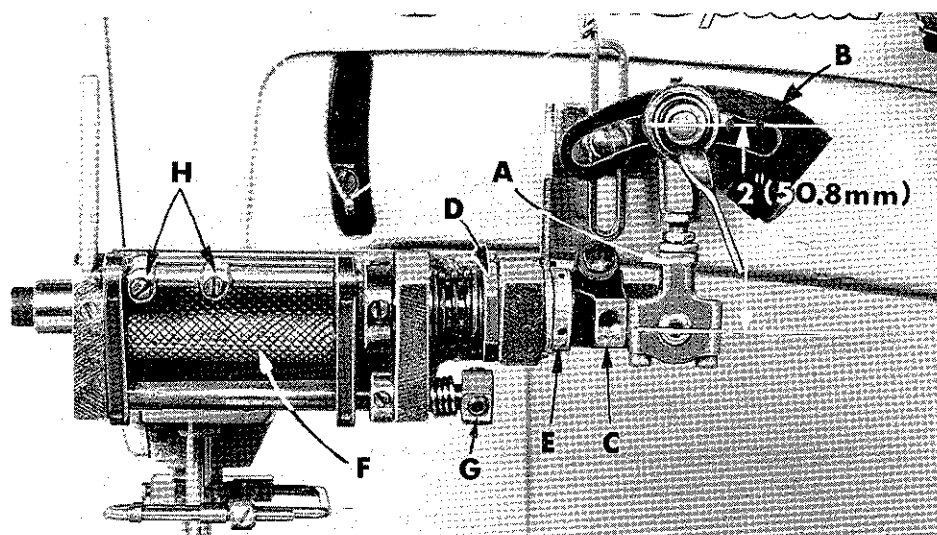

Fig. 17
The metering device MUST operate freely with the connecting rod assembly (A, Fig. 17) positioned at any point in the clutch drive lever (B) and the clutch rocker shaft lever (C).
If adjustment is required, first, check and/or adjust the connecting rod assembly. There should be 2 inches (50.8 mm) between centerline of screw and centerline of ball stud (Fig. 17). Reposition clutch drive lever (B) on the needle lever shaft, up or down as required, so the connecting rod assembly does not bind, moving to either extreme of travel while turning handwheel in the operating direction. The connecting rod assembly should have a SLIGHT SHAKE in all positions. The clutch drive lever may require a slight adjustment when moving connecting rod assembly as described in "NOTE".
The clutch brake is set at the factory, though a considerable change in stitch length may necessitate a change in the amount of brake pressure required to eliminate overthrow of the metering device at high speeds. Should adjustment be necessary, loosen nut (D, Fig. 17) and turn bushing (E) clockwise to lessen clutch overthrow (viewed from the handwheel end of machine); turning bushing counterclockwise acts the reverse. NOTE: Apply only enough brake pressure to eliminate overthrow. Too much brake pressure will create excessive heat and wear to the metering device mechanism. Retighten nut (D).